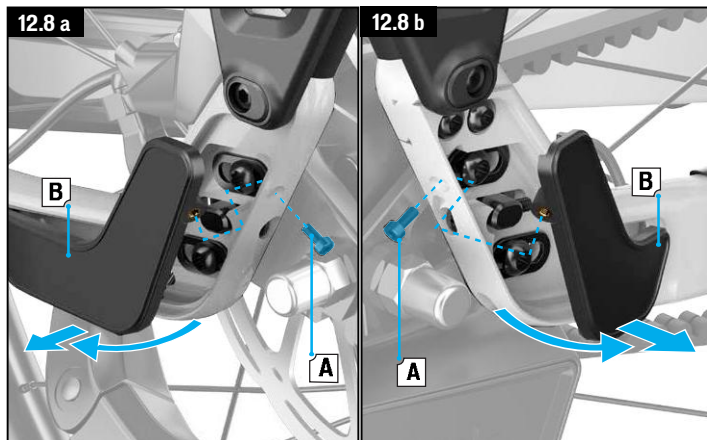

Fig 12.8 A & B
- Remove the adjustable drop out covers (fig.12.8 A-B)
- Using a TX25 wrench, remove the upper seatstay coupler bolts (A) and the seatstay coupler barrel (B) from the dropout.
- Pull the chainstay and seatstay apart and slide the belt carefully through the gap in the seatstay (C).